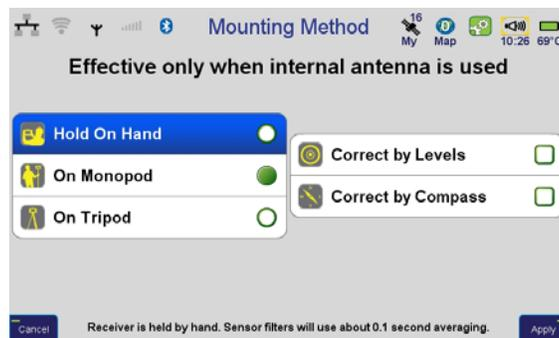

Figure 16. Mounting Method
2. Select the desired mounting method (Figure 16 on page 22)